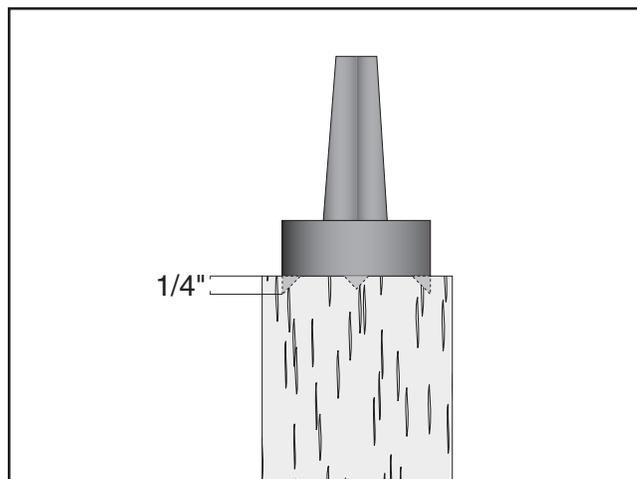

Figure 36. Spur center properly embedded.
5. Drive the spur center into the center of the workpiece with a wood mallet to embed it at least $\frac{1}{4}$ ", as shown in **Figure 36**.